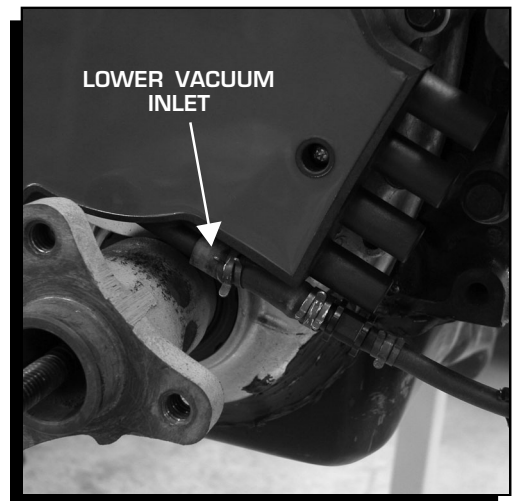

Figure 7 Install the Lower Vacuum Line.
7. Install Vacuum hoses as shown on page 3 (Figures 7 - 9).
1. Connect the long hose assembly to the lower vacuum inlet of the MSD distributor cap (Figure 7). Use the supplied clamp to secure the hose.